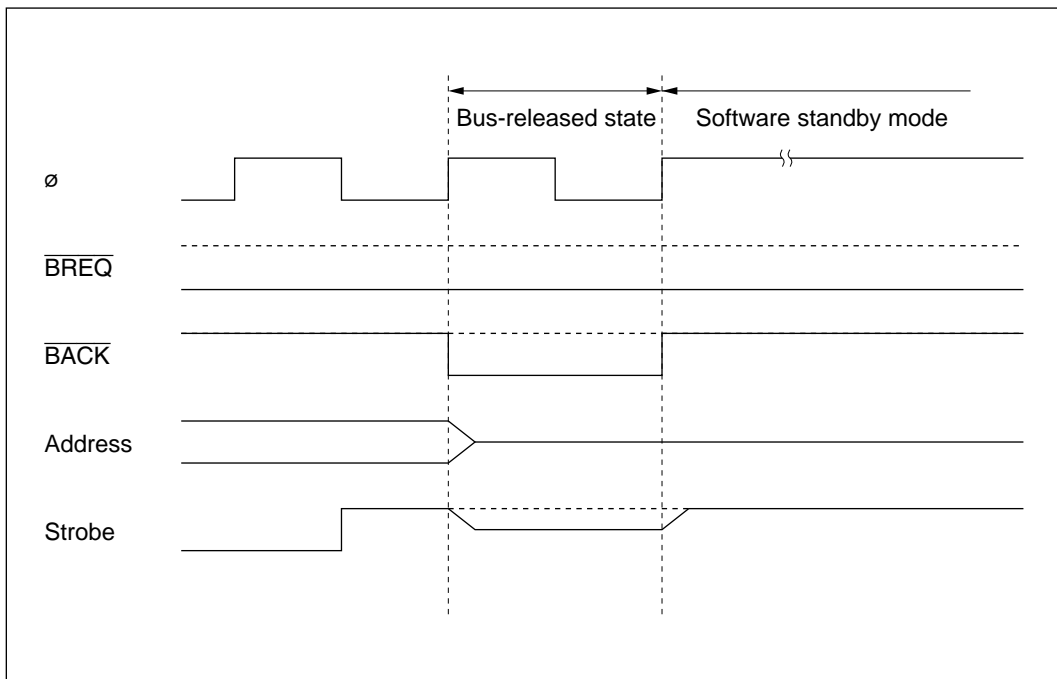

Figure 7-24 Contention between Bus-Released State and Software Standby Mode
- If contention occurs between a transition to software standby mode and a bus request from an external bus master, the bus may be released for one state just before the transition to software standby mode (see figure 7-24). When using software standby mode, clear the BRLE bit to 0 in BRCR before executing the SLEEP instruction.